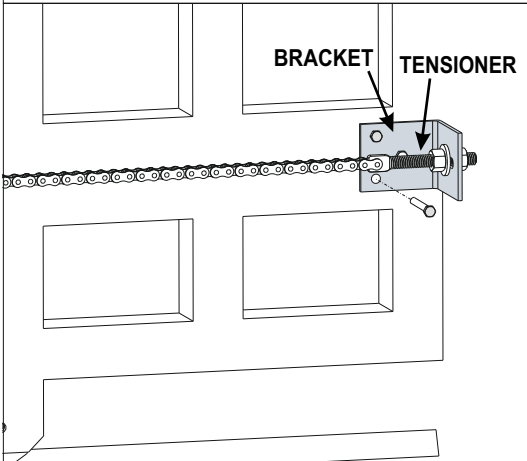

Fig. 24
- a) Secure two sturdy brackets at the two extremities of the gate for attaching the chain (Fig. 24)
- b) Install a chain tensioners on each bracket in order to regulate the chain tension (Fig. 24)